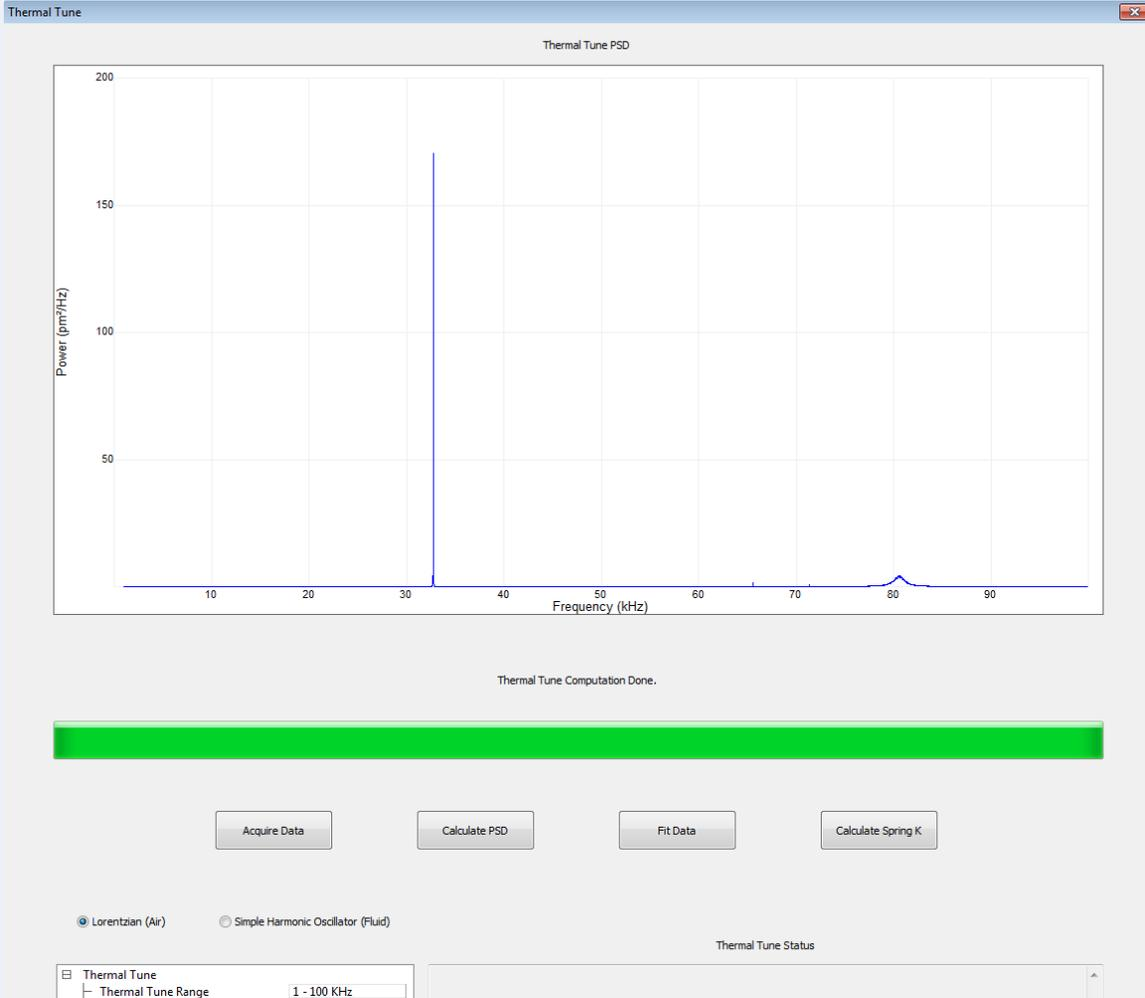

Figure 8
4. Ignore false noise peaks such as the one in Figure 8 at ~33 kHz.